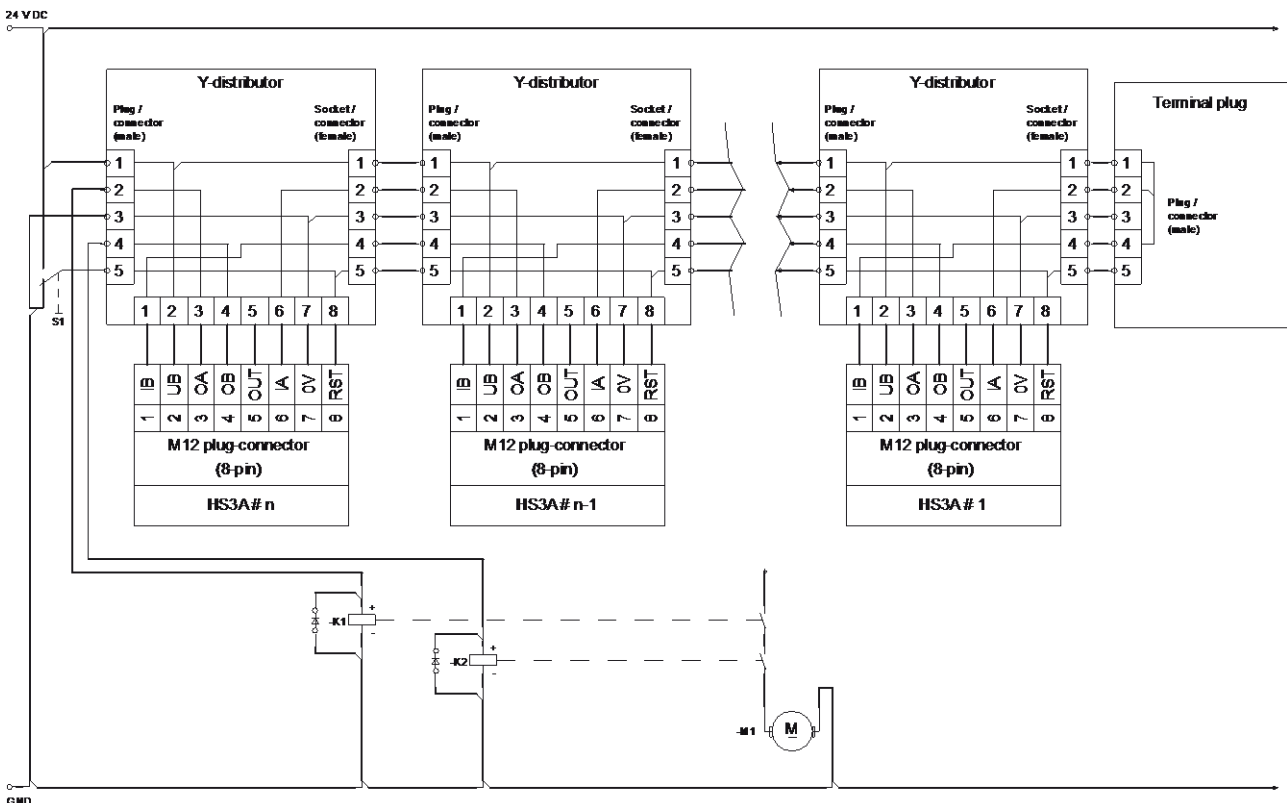

Figure 9: Connection example for series connection
- ▶ A common signal must be used for all switches in the chain. This can be a changeover switch or the output of a control system. A button is not suitable because Reset must always be connected to GND during operation (see switch S1 in Figure 9).